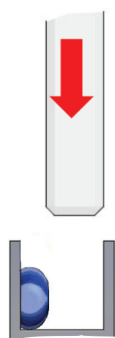

FIG 8.
- When panel is correctly aligned, remove panel and run a thick continuous line of silicone down the inside of the wall channel (FIG 8) and apply liberally in the bottom channel.